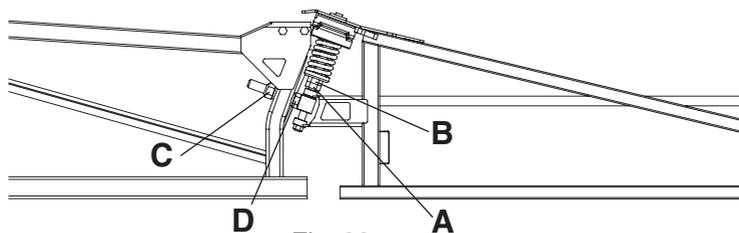

Fig. 32
2. Loosen the jam nut **(A)**(Fig. 32).
3. Adjust the nut **(B)**(Fig. 32) until the breakaway will release as desired.
5. Make sure the breakaway is level with the outer wing. If necessary, adjust by loosening locknut **(C)**(Fig. 32) and adjusting nut **(D)**(Fig. 32) until the breakaway is level. Tighten locknut **(C)**(Fig. 32) again.